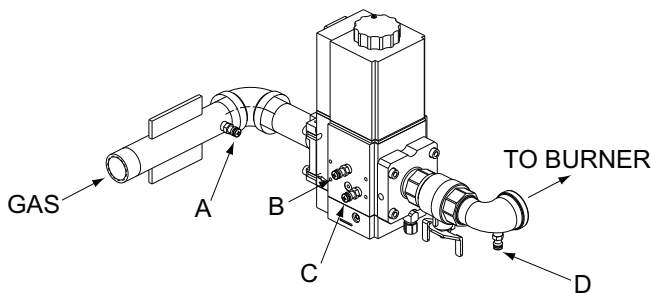

Fig. 44: Gas Pressure Measurement Locations
2. Attach (1) 12" scale manometer to an upstream bleedle valve on the gas supply pipe to the heater (Measure point "A" in Fig. 44).
3. Attach (1) 24" scale manometer to the manifold pressure tap located on the shutoff valve downstream of the firing valve (Measure point "D" in Fig. 44).
1. Check manifold gas pressure at the gas valve outlet pressure tap (connection "D" in Fig. 44). This pressure should read per the values in Table T for natural and propane gas.